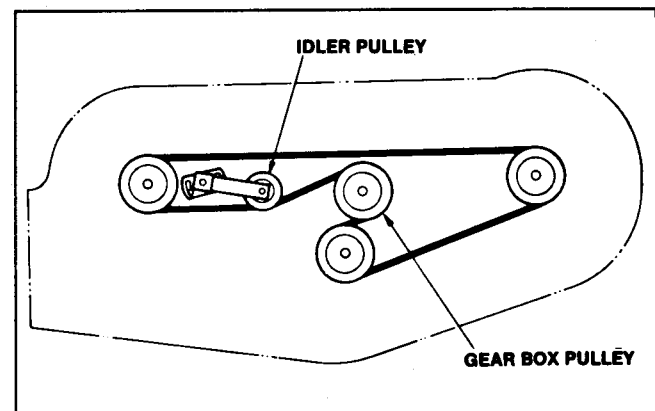

Figure 35
11. Reinstall the belt into all of the pulleys as shown in Figure 35.